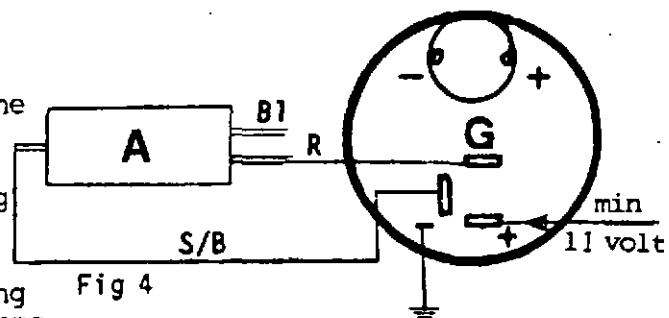

Fig 4
4. If the instrument shows no reading - connect the test resistor directly to the back of the instrument as in fig. 4.